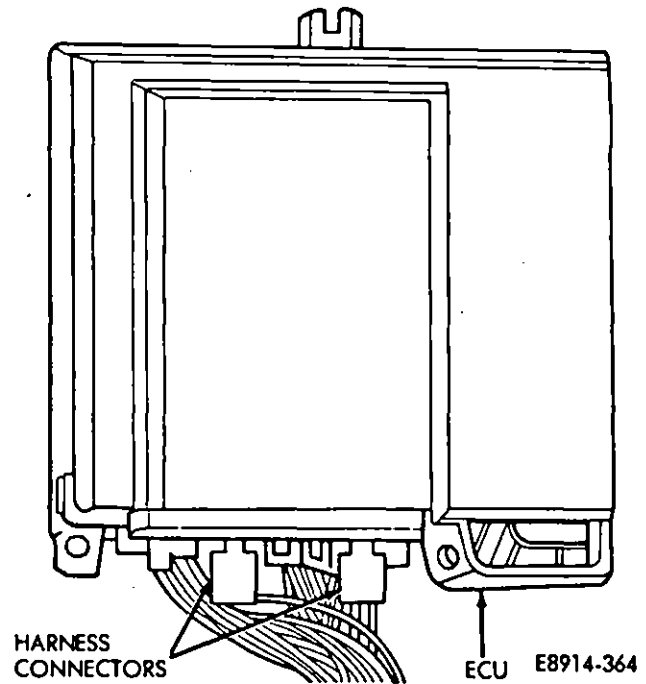

Fig. 12—ECU Connectors
- (3) Disconnect the harness connectors from the ECU (Fig. 12).